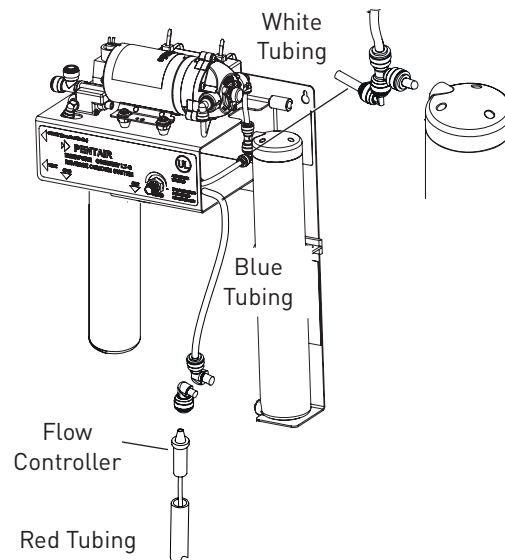

Figure 13
3. Remove the two (2) cartridges by twisting each cartridge a 1/4-turn to the left (counterclockwise). Then pull down to release.
4. Remove the GRO-75EN RO Membrane Cartridge by removing the tubing from all three (3) connections. Then pull the cartridge out of the clip.
5. At the bottom of the cartridge, remove the quick-connect elbow from the red tubing to gain access to the flow controller and the attached capillary tube. Replace the flow controller (Figure 13) in the red tubing.
6. Insert a new flow controller (Figure 13) with capillary tube into the tubing. Replace the quick-connect elbow.